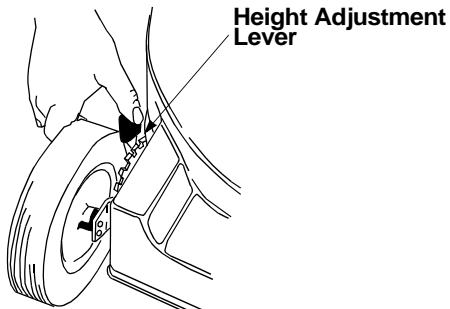

Figure 11
- Move the spring lever to one of these height positions and the height of cut will be changed. Simply depress the lever towards wheel and move lever assembly to desired position. See Figure 11.